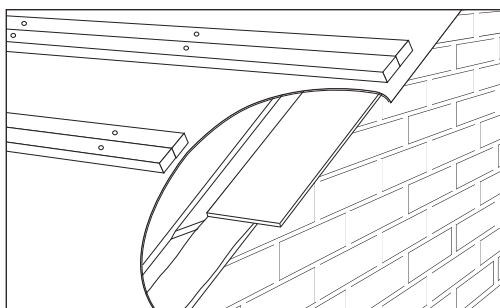

Fig 2 Double course of battens increase rigidity
- 3 For rafter pitches over 30°, where it is not possible to gain a firm fixing for ends of tiling battens, use a double course of battens across a complete rafter span (two fixings minimum), to increase rigidity of system (Fig 2).
- 4 If, during setting out, vertical leg of cloak verge unit cannot be closely fitted with brickwork or bargeboard, fix fibre cement undercloak strip beneath tiling battens, to prevent ingress of birds and vermin (Fig 2).